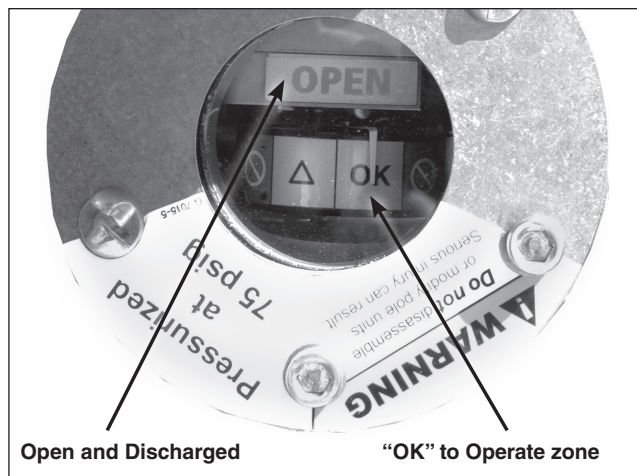

Figure 18. Make sure the pole-unit is open and discharged. Also make sure the gas-pressure indicator is in “OK” to Operate zone.
STEP 13. Check the indicator at the base of each pole-unit to make sure the pole-unit is open and discharged. Also check that the gas-pressure indicator is in the “OK” to Operate zone. See Figure 18.